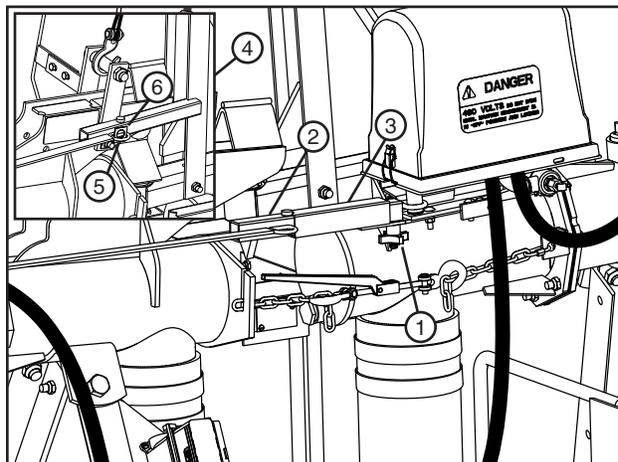

Figure 26-3 1. Plastic Knob 2. Outer Alignment Arm Location 3. Inner Alignment Arm 4. Alignment Arm Storage 5. Loop 6. Tab
7. Loosen the plastic knob located on tower box inner alignment arm. Then, slide out of the tower box inner alignment arm. See Figure 26-3.
8. Lay out alignment arm on outer span so that the loop is over the tab as shown. See Figure 26-3.
9. Tighten plastic knob completely to reduce the possibility of it from falling off during operation. See Figure 26-3.